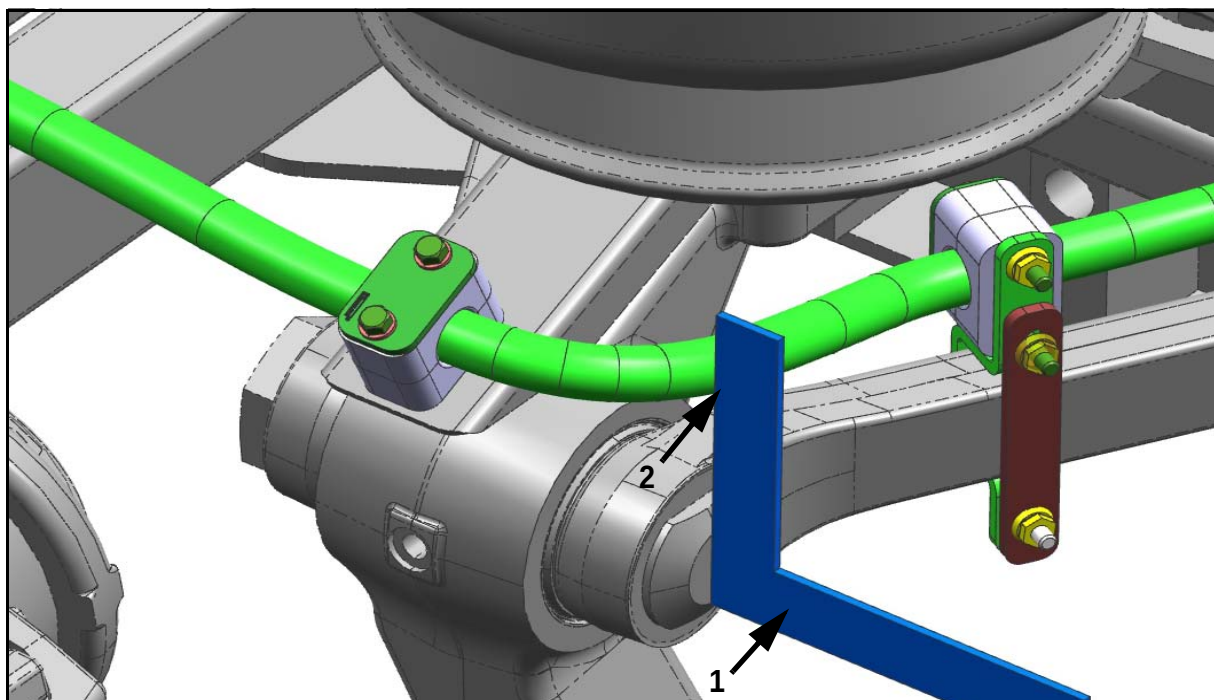
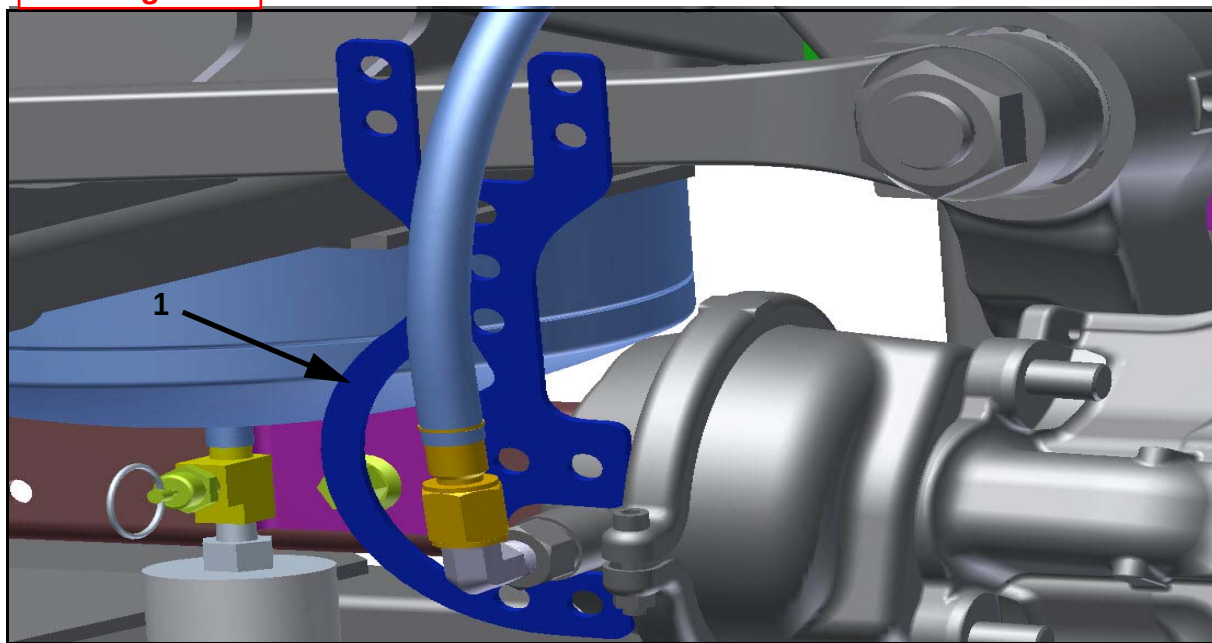
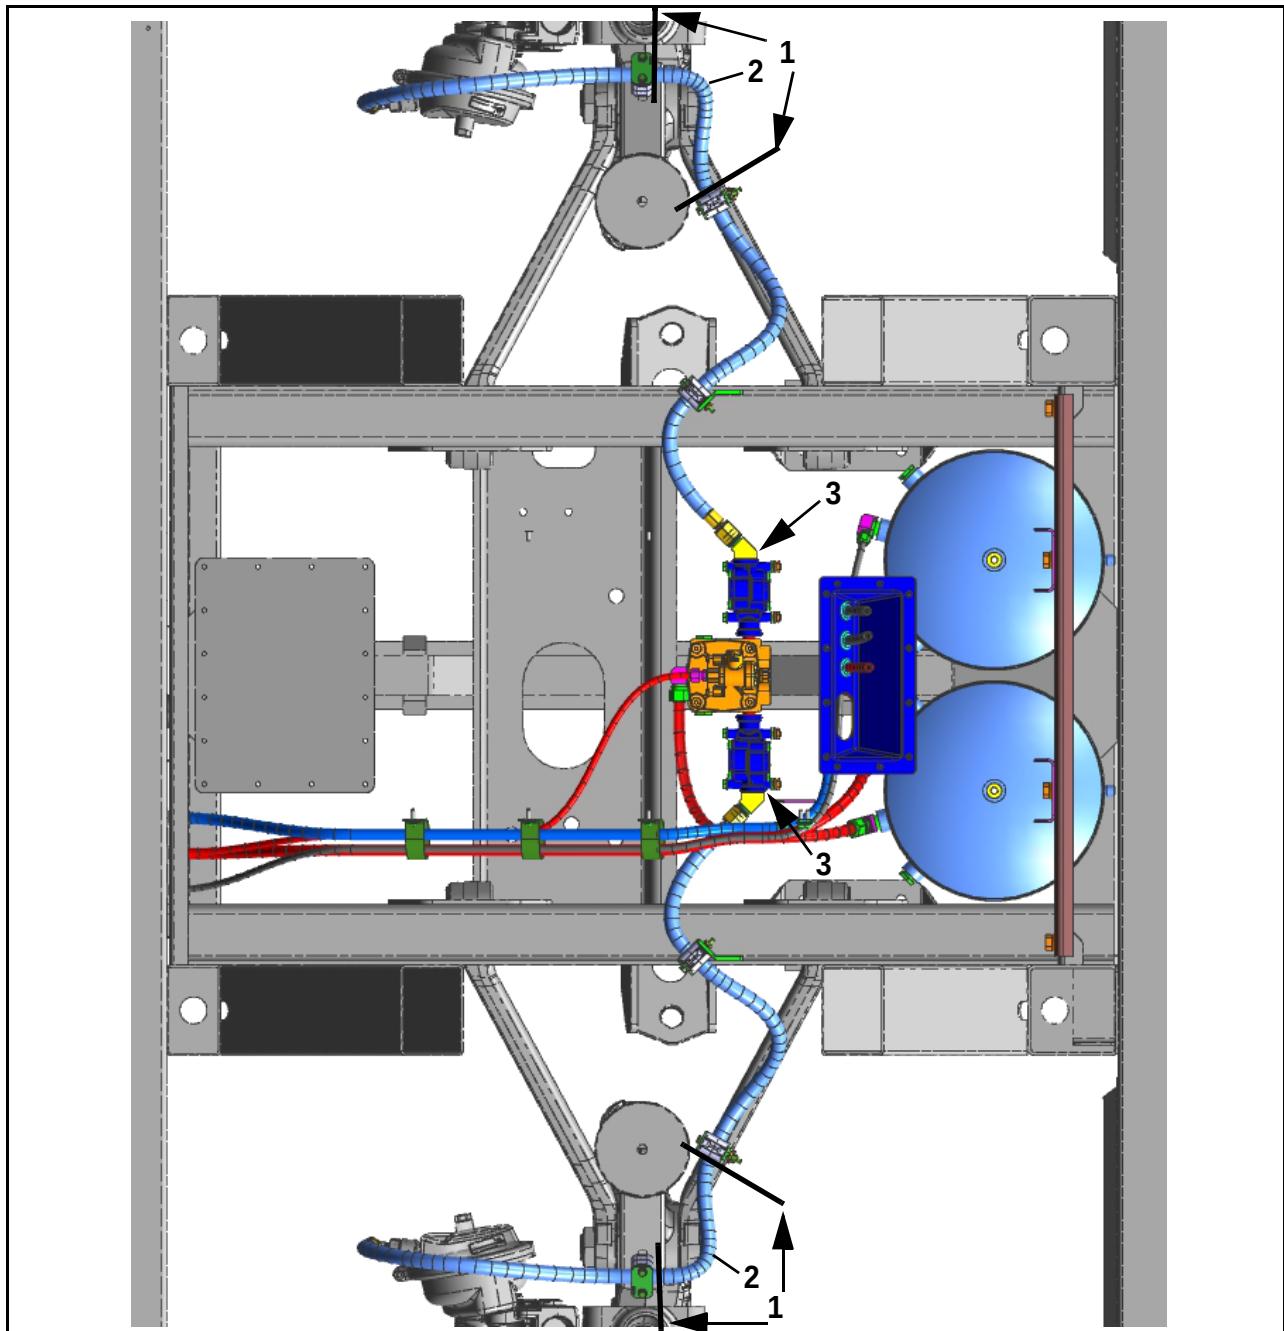

Figure 13. was - Figure 12
Figure 15. **was - Figure 13**
Figure 17. ← was - Figure 15
- was - 23** 24. Position a square across the face of the suspension arm bolt head (refer to **Figure 13**). Using a measuring tape, ensure that there is a minimum clearance of 0.06 inch between the edge of the front brake hose assembly and the edge of the square.
Item	Figure 13 Description
- was - 37** 39. Orient and connect the new front brake hose assembly to the 90 degree fitting on the front brake chamber as shown in **Figure 15**. **was - Figure 13**
- was - 39** 41. Orient the front brake line gauge, p/n 20-04-0028, against the front brake chamber clamp as shown in **Figure 15**. Center the hose routing with the upper opening of the brake line alignment tool and tighten the swivel nut to secure in position, ensuring that there is no twist or flex at any point throughout the routing. **was - Figure 13**
Item	Figure 15 Description
- was - 42** 44. Using a measuring tape, ensure that the front brake hose assembly routing length is the 8.00 to 8.25 inches of hose length from face to face of the clamps while maintaining a minimum bend radius of 2.25 inches as shown in **Figure 17**. **was - Figure 15**
Item	Figure 17 Description
- was - 45** 47. Route the front brake hose assembly to the next brake hose bracket. Tighten clamp to secure the front brake hose assembly in position (refer to **Figure 17**). ← **was - Figure 15**
- was - 46** 48. Orient and connect, using two (2) wrenches, the end of the brake hose assembly to the 45 degree fitting on the front brake module valve(refer to **Figure 17**). Torque to 56-60 ft-lbs. ← **was - Figure 15**
- was - 49** 51. Enter the coach cabin. With the air system full, apply and hold a service brake application. Have a second person spray a mixture of soapy water to the threads and swivel nut of the brake hoses bundle. Monitor for thirty (30) seconds for signs of a leak. If a leak is present, tighten and repeat Step.